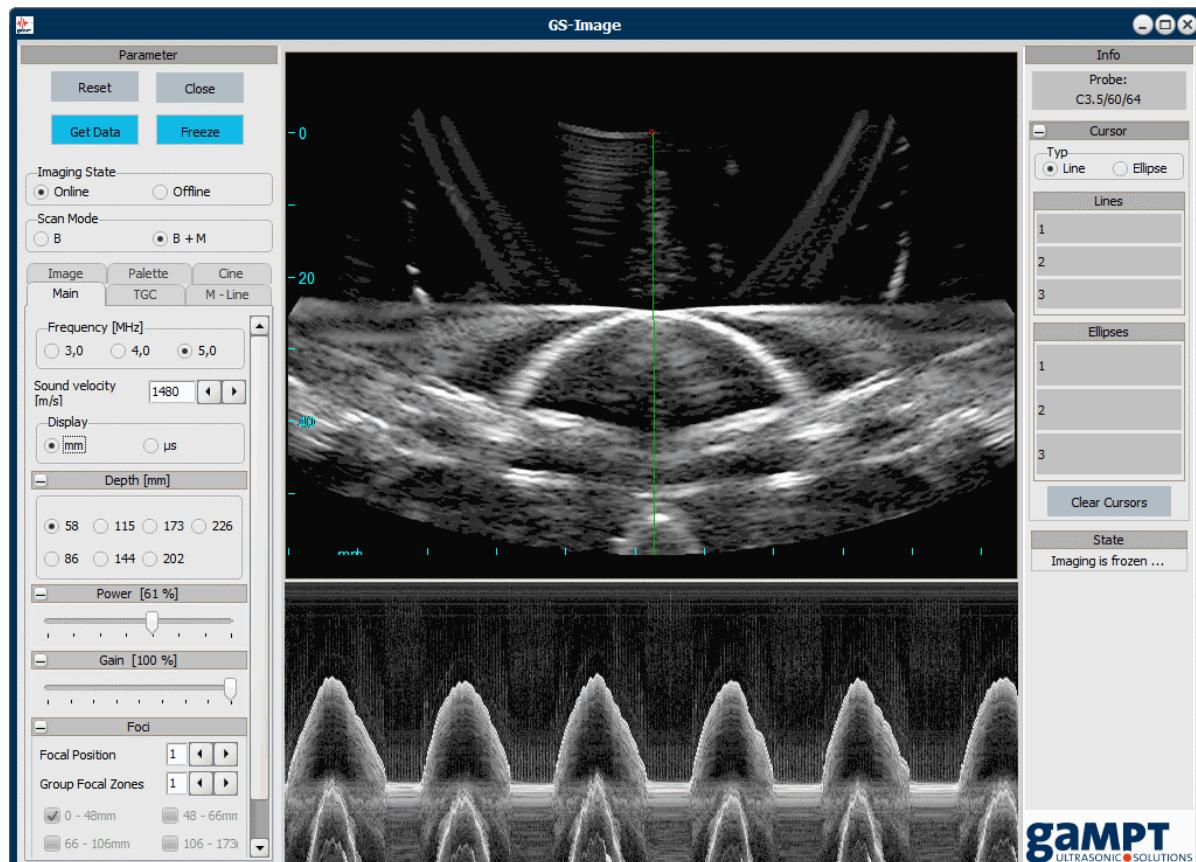

Fig. 62: B+M-mode measurement of a moved diaphragm (heart model, order no. 10220)
**B+M-mode:** In this mode, another ultrasonic image is displayed under the ultrasonic B image, which is created according to the time motion method. The time motion image is created referring to a so called M line (green line in the upper sonogram of figure 62) which can be positioned freely with the setting function of the M line tab in the B image sonogram (siehe chapter 5.4.4.3).
In **B+M-mode**, the M-line also indicates the position, at which scanline the M-mode data is achieved (see figure 62 on page 66). You can determine the time frame for the time motion image and thus the refresh rate for the image via another slider, *Sweep Speed*. Size and number of the adjustable time values depend on the used array transducer.